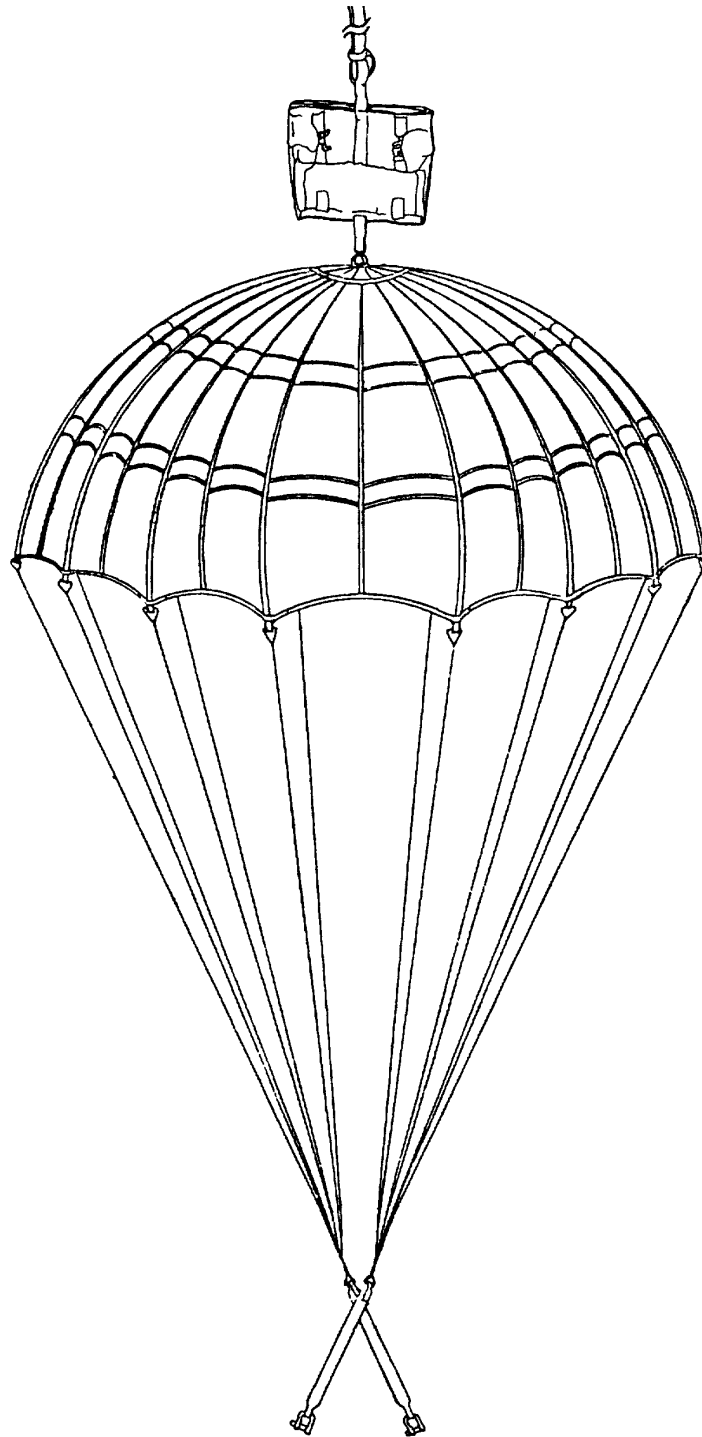

Figure 1-1. The 12-Foot-Diameter High-Velocity Cargo Parachute Assembly.
a. Type of Manual. This manual provides unit and intermediate direct support (DS) maintenance Instructions for parachute. NSN 1670-00-7888666. This is a 12-Foot Diameter High-Velocity Cargo Parachute (Figure 1-1). This manual also provides a Repair Parts and Special Tools List located at Appendix C.